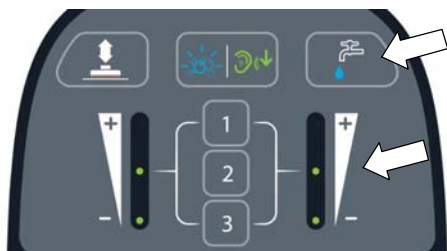

FIG. 39
3. Press the solution flow button to increase or decrease the solution flow rate (Figure 39). The solution flow indicator will display flow setting. No LED = No flow, One LED = Low flow, two LED's = Medium flow, three LED's = High flow.